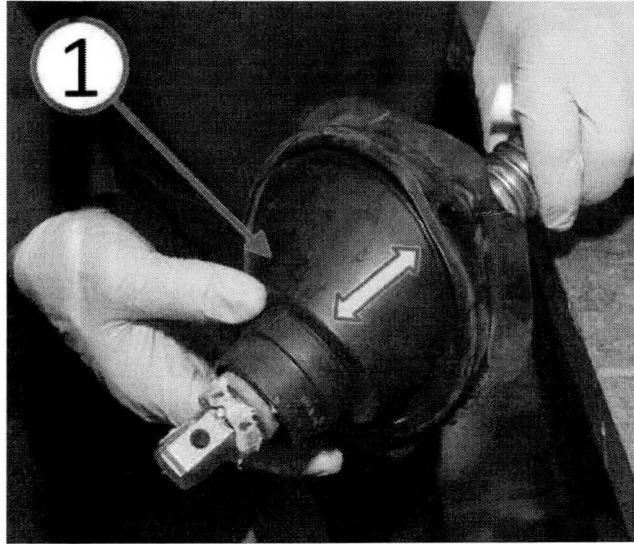

Fig. 9 Check Installation
9. Slide the intermediate shaft bulkhead pass through boot and outer bearing sleeve assembly back and fourth to distribute the white lithium grease and to ensure that the outer bearing sleeve is properly engaged with the inner bearing sleeve (Fig. 9).